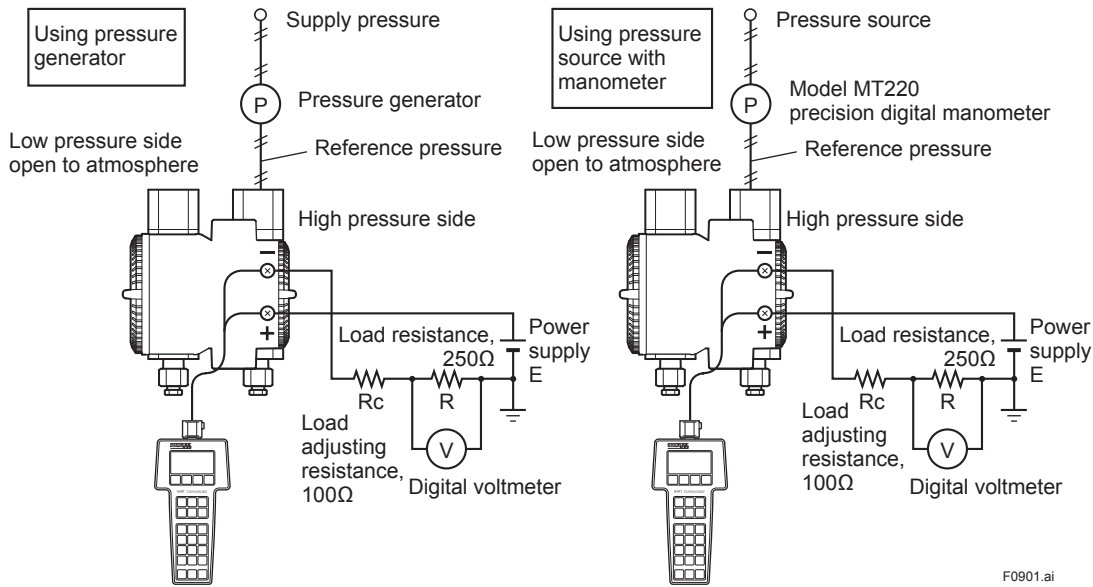

Figure 9.1 Instrument Connections for Differential Pressure (HART communication type)
- 1) Connect the instruments as shown in figure 9.1 and warm up the instruments for at least five minutes.